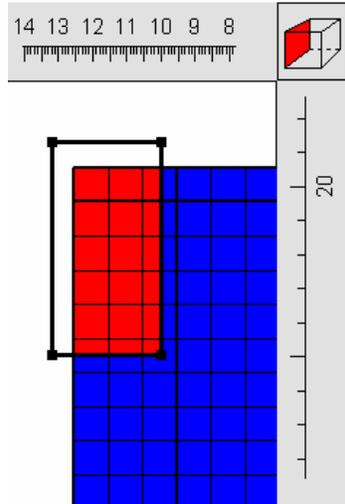

Figure 44. Location of the specified concentration boundary. The grid has been colored by the specified head solution.
- The next step is to create a specified concentration boundary on the left end of the model. On the side view of the model, draw another polygon. This should enclose only part of the grid. It should extend from approximately $(Y, Z) = (15, 10)$ to $(21, 13)$ (fig. 44). In the **Object**
Properties dialog box, select the **Nodes** radio button. Set its name to “Specified_Concentration_Boundary.” Check the **Set values of enclosed nodes** checkbox. Set **Associated third dimension formulas** to **One**. Leave the **X-coordinate** set to 0. On the **Boundary Conditions** tab, select a **Specified head** boundary. Change the type of solution to **Specified solution**. In the table enter a value of 1 for **Head** and 2 for **Specified solution**. Click **OK** to close the dialog box. Now color the grid with the **Specified_Head_Solution** (fig. 44). The left end of the model should be specified head cells. The cells with a specified head solution of 1 will be colored red and those with a specified head solution of 0 will be colored blue.